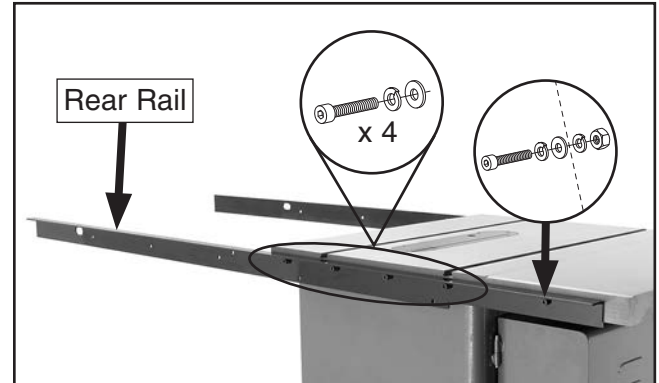

Figure 9. Example of rear rail installed.
3. Fasten rear rail to table with (4) M8-1.25 x 25 cap screws, 8mm lock washers, and 8mm flat washers, as shown in **Figure 9**. Secure left side of rail to table with (1) M8-1.25 x 25 cap screw, (2) 8mm lock washers, (1) 8mm flat washer, and (1) M8-1.25 hex nut.